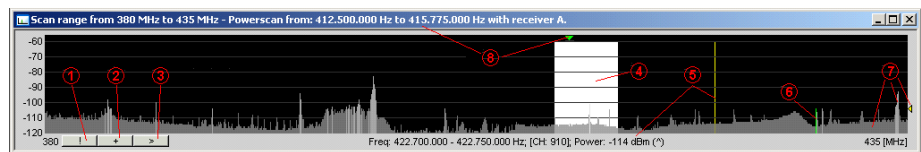

Figure 102 Power window showing a frequency range
(1) Use the ! button to switch to the carrier view (see "Carrier view" on page 124).
(2) If a large frequency range was scanned the window cannot contain all measured values. Several measurement values are summarized in order to provide a complete overview of the scanned area. You can enable the zoom option by using the + button. The window shows one value for each measurement value. You can scroll the entire range of measurement. Use the – button to switch back to the overview.
(3) You can use the > button to open additional menus (see "Additional menus" on page 123).
(4) Selected areas are highlighted. (See "Context menu" on page 123).
(5) The cursor is depicted as a horizontal yellow bar. The most important data beneath the cursor are shown in the bottom row. The example (Figure 102) shows a large frequency range. Several measurement values are summarized. The text explains the range of the combined measurement values (e.g. "Freq: 422.700.000 – 422.750.000 Hz") and the peak (^) power value of the measurement (e.g. "Power: –114 dBm"). If the summarized range contains a TETRA carrier, this TETRA carrier has a higher priority in respect to the display. If only one measurement value is available at the position of the cursor, only this measurement value is depicted. See section "Context menu" on page 123 for additional information.
(6) Detected TETRA carriers are highlighted using colors. A TMO downlink carrier is green, a TMO uplink carrier is yellow and a DMO carrier is dark yellow.
(8) If TetraScanner is busy with a scan job, the green arrow shows the frequency being processed. The title shows the job being processed. The example (Figure 102) shows a power scan for the selected range (4).